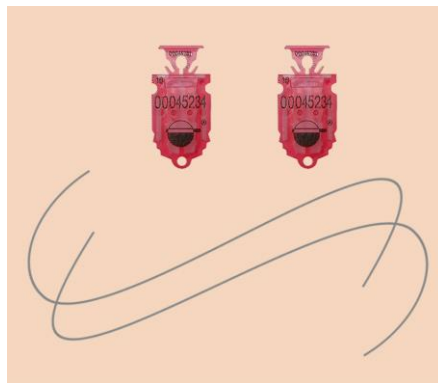

Figure 26 — Plastic seal* and sealing cord
It is required to seal the sensor and cable connector with sealing cords and disposable plastic seals to prevent fuel thefts or unauthorized interference into DUT-E operation (see figure 26). Seals and cord are included into DUT-E delivery set.
* Design of the seal supplied within the delivery set can differ from the one displayed in figure 26.